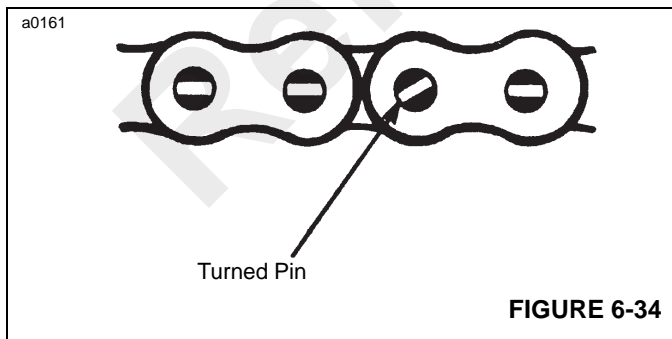

FIGURE 6-34
- d. The pin head rivets should be examined to determine if the V-flats are still in the correct alignment. Chain with rotated or displaced heads or abnormal protrusion (Figure 6-34) should be replaced immediately.